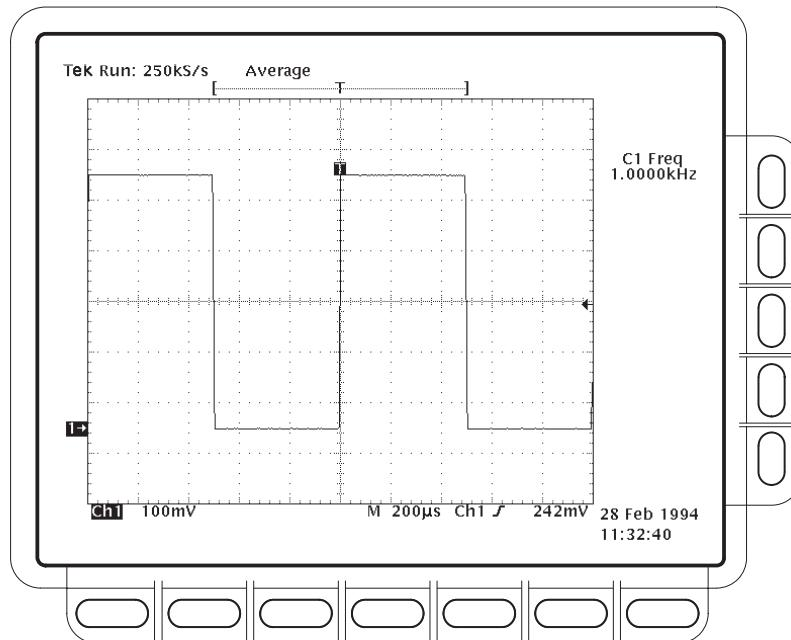

Figure 4-22: Measurement of probe compensator frequency
- CHECK that the **CH 1 Freq** readout is within 950 Hz to 1.050 kHz, inclusive. See Figure 4-22.